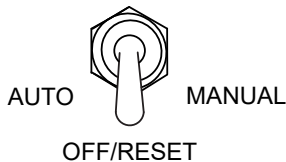

Figure 61. Auto Start/Stop Switch (Off/Reset Position)
5. Place the **Auto Start/Stop** switch (Figure 61) in the **OFF/RESET** position.